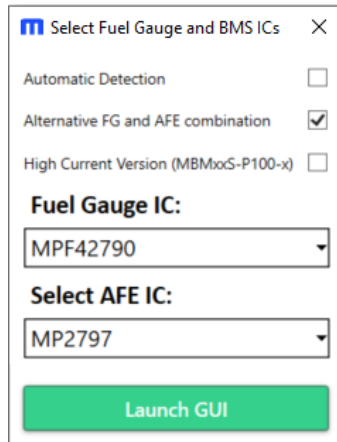
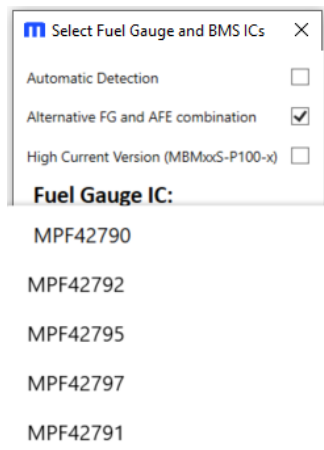
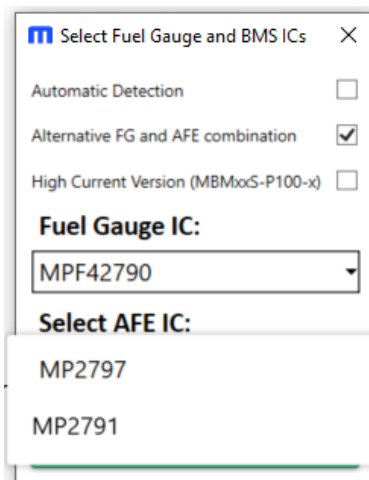

Figure 25: Fuel Gauge and BMS ICs Selection Window 3
Figure 26: Fuel Gauge and BMS ICs Selection Window 4
Figure 27: Fuel Gauge and BMS ICs Selection Window 5
- b. Manually select the BMS and FG ICs independently with the drop-down menus (see Figure 25, Figure 26, and Figure 27).